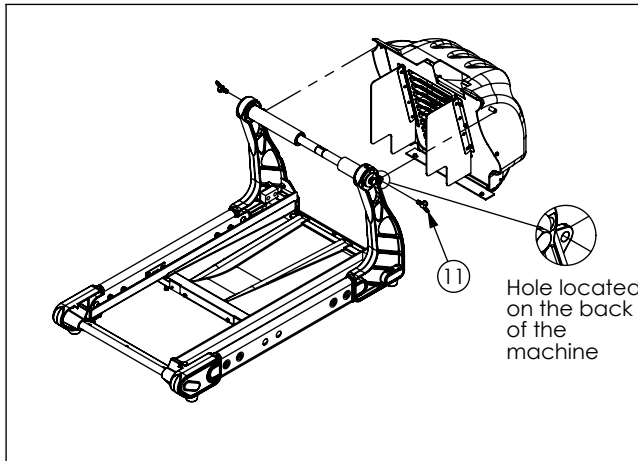

Figure 2: Installing the kit
1. Align mounting rod to holes located at the back of the saw (see Figure 2).